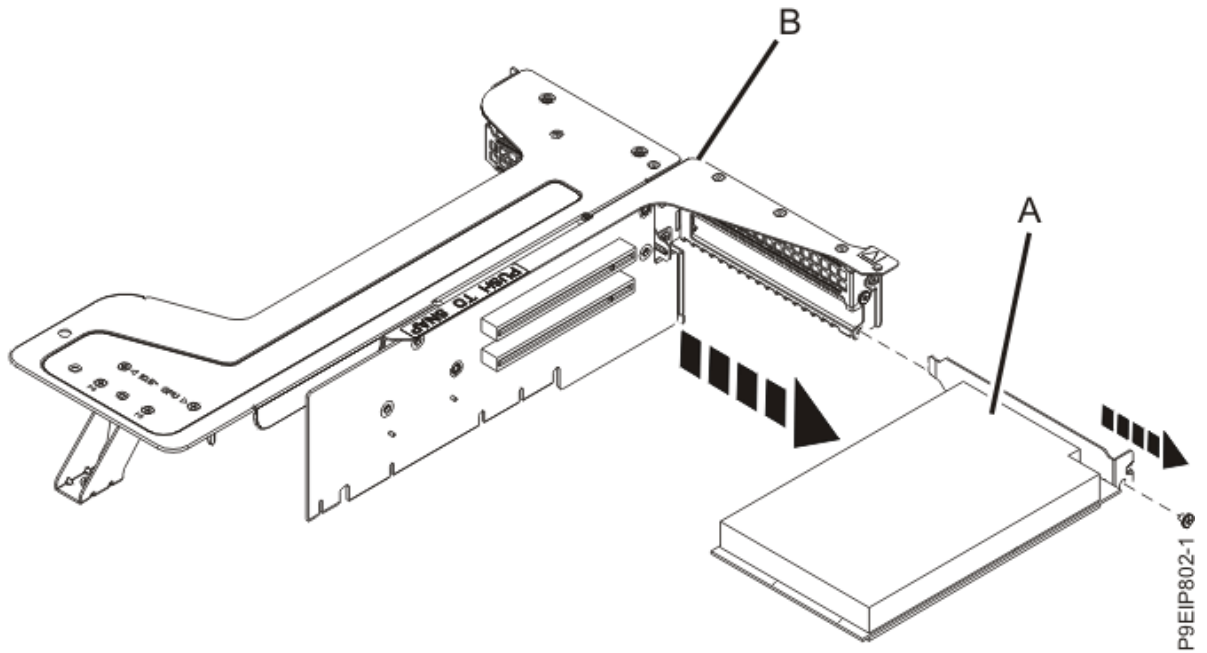

Figure 17. Removing an adapter in positions 0 or 1 from the riser
- f) Unplug an adapter **(A)** from the PCIe adapter riser **(B)** as shown in Figure 17 on page 22.